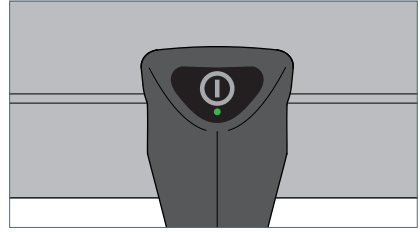

Fig. 6: Key.
- ▶ Press the key, see Fig. 6
- ▶ Press the key and keep it depressed, see Fig. 6.
- ▶ Press the key twice quickly in succession, see Fig. 6.